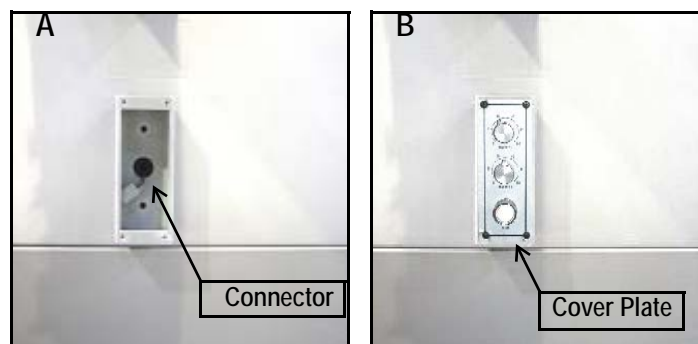

Figure 3-13: Wash-down control box
3. Install the empty box and connect six (6) MOLEX connector. (See picture A of Figure 3-13.)
4. Re-install the wash-down control box cover plate. (See picture B of Figure 3-13.)